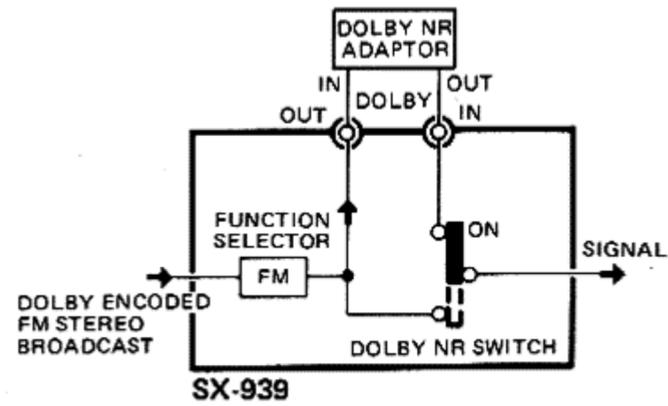

Fig. 18
1. Connect the Dolby adaptor as shown in Fig. 18 to the DOLBY NR ADAPTOR IN and OUT jacks.